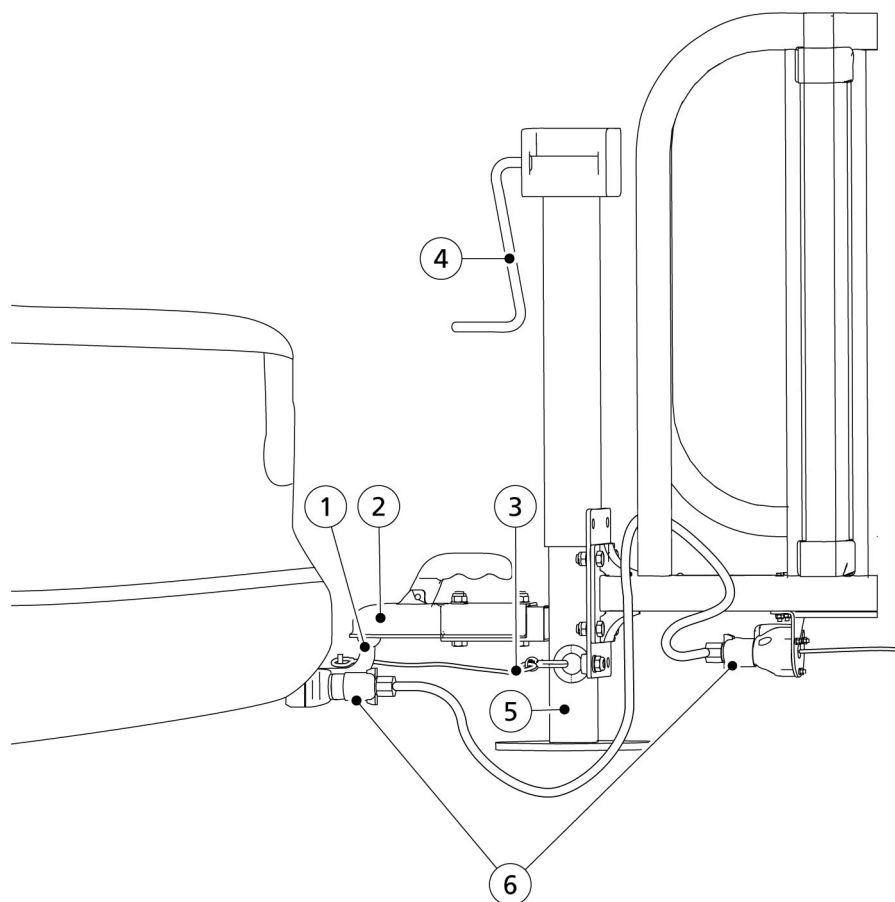
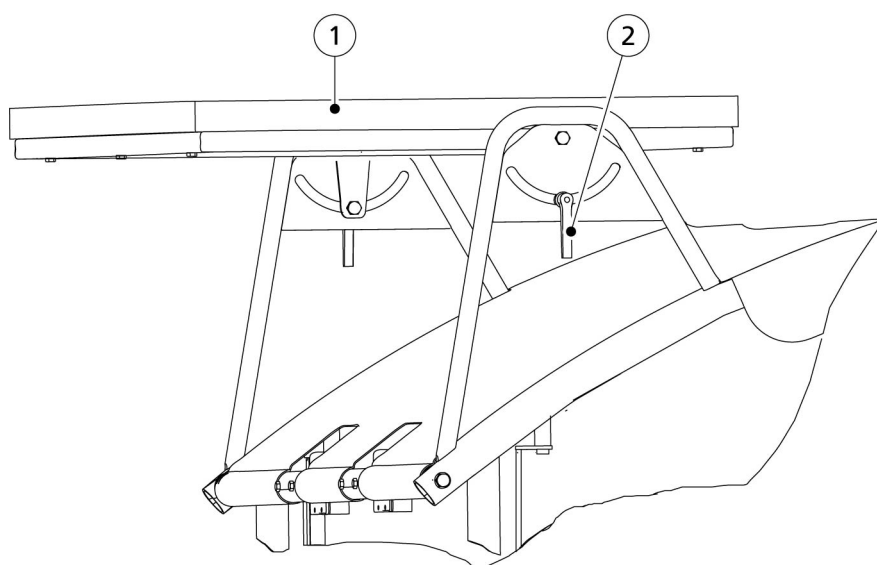

Figure 7. Prepare the COSMIX M for transport
Figure 8. Adjust the solar panel
1. Use the front support column crank (4, fig. 7, page 5-3) to raise the coupling (2) above the towbar ball (1).
4. Fully raise the front support column (5) with the front support column crank (4).
5. Connect the breakaway cable (3) to both the car or tractor and the COSMIX M.
6. Connect the trailer connector cable to the connectors on both the COSMIX M and the car or tractor (6).
8. Adjust the solar panel (1, fig. 8, page 5-4) to the transport position (approximately horizontal).
9. Make sure the handle (2) is fully tightened.
2. Remove the cables (3, fig. 7, page 5-3) and (6) from both the car or tractor and the COSMIX M and store them in a safe place.
3. Use the front support column crank (4, fig. 7, page 5-3) to raise the coupling (2) above the towbar ball (1).
6. Raise the front support column approximately 1 cm (0.4 in) with the crank (4).
8. Fully lower the front support column with the crank (4).
1. Loosen the handles (2, fig. 8, page 5-4) of the mechanism that keeps the solar panel in its position.
2. Turn the solar panel (1) until the angle with the ground is approximately 60 degrees.